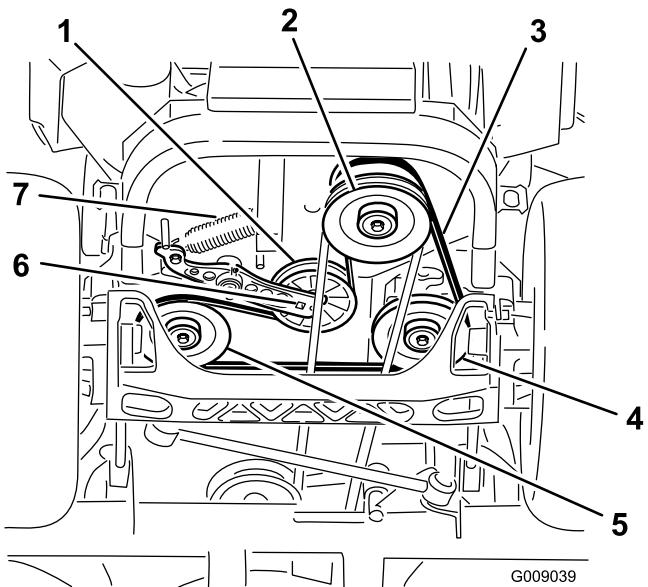

Figure 76
5. Use a ratchet in the square hole in the idler arm to remove the idler spring (Figure 76).
6. Unhook the idler spring from the frame (Figure 76).
9. Using a ratchet in the square hole in the idler arm, install the idler spring to the frame (Figure 76).
4. Raise the machine and support it with jack stands (Figure 76).